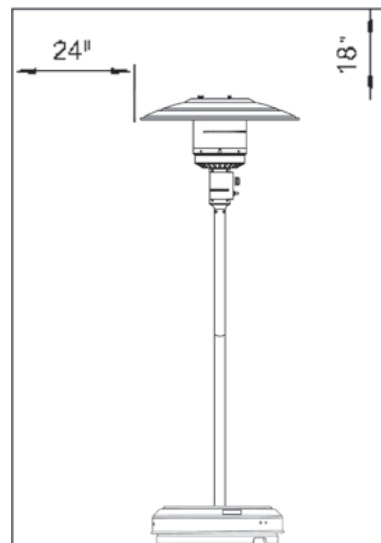

Figure 10
- Respect minimum clearances to combustibles as shown in Figure 10.